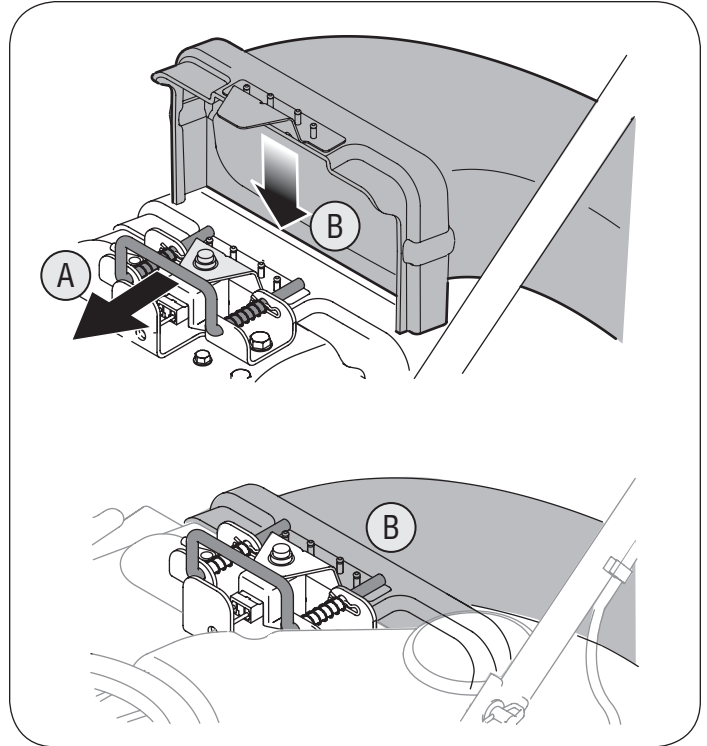

Figure 8
8. a. Grasp blower chute with one hand and slide locking rod on mounting bracket with other hand toward engine. Use the end of mounting bracket as leverage when sliding the locking rod. See Figure 8.
- b. Slip blower chute over rim of discharge opening and release locking rod to secure chute in place, as in Figure 8.